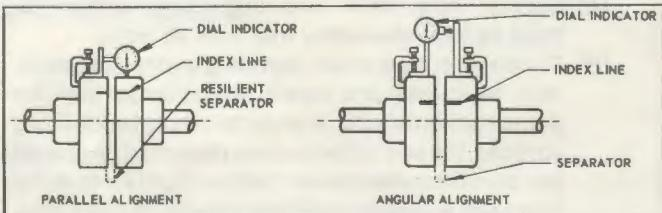

FIGURE 3. TESTING ALIGNMENT, DIAL INDICATOR
- d. An alternate test for parallel and angular alignment may be made with a dial indicator mounted as shown in Figure 3. Proceed as follows:
- (1) Scribe the index lines on the coupling halves (as shown) or mark where the indicator point rests.
- (2) Set indicator dial to zero.
- (3) Slowly turn BOTH coupling halves so that index lines match, or indicator point is always on the mark.
- (4) Observe dial reading to determine whether pump or driver needs adjustment.
- (5) Acceptable parallel and angular alignment occurs when total indicator reading (complete turn) does not exceed limits shown on either a tag or decal on the unit or on the unit outline drawing.